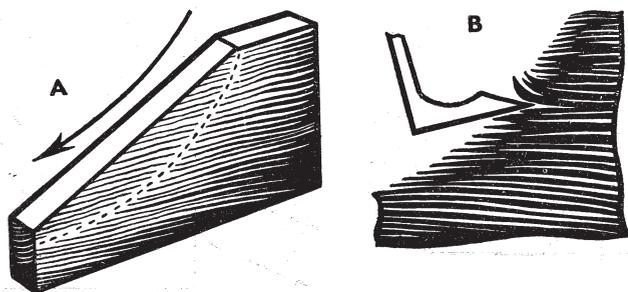

FIG. 2. SHAPING WITH THE SPOKESHAVE
Shaping with the Spokeshave. The same general principle applies in the case of the spokeshave. Fig. 2(A) shows the timber and the direction of its grain, the dotted line being the curve required, and the arrow giving the correct direction for using the spokeshave. The slope of the curve required often makes it more convenient to use the spokeshave in the wrong direction so far as grain is concerned, and it is an easy mistake to make. The enlarged detail (B) again shows how the spokeshave cutter forces up the fibres if the wrong direction is taken.